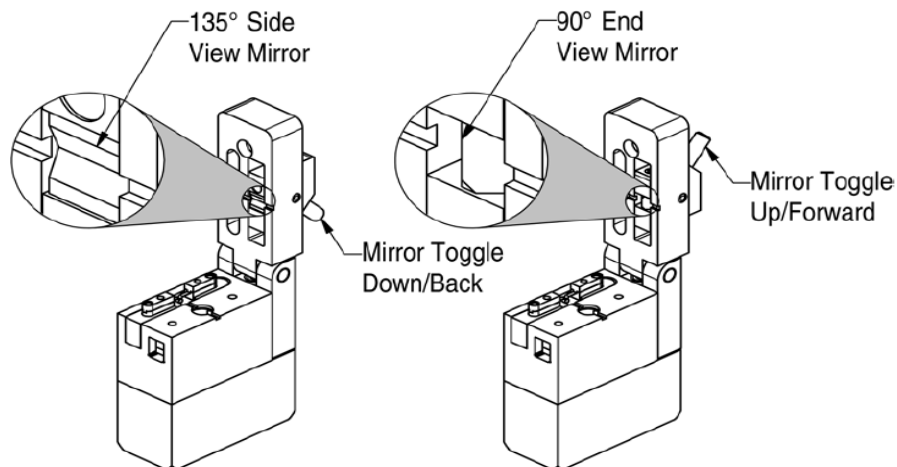

Figure 46 Mirror Toggle of Splice Top
- Make sure the mirror toggle is positioned with the 135° side view mirror down as shown in Figure 46 prior to closing the splice top. Scratching of the 90° mirror can result if it is lowered onto the bar fiber in the camera viewing area.